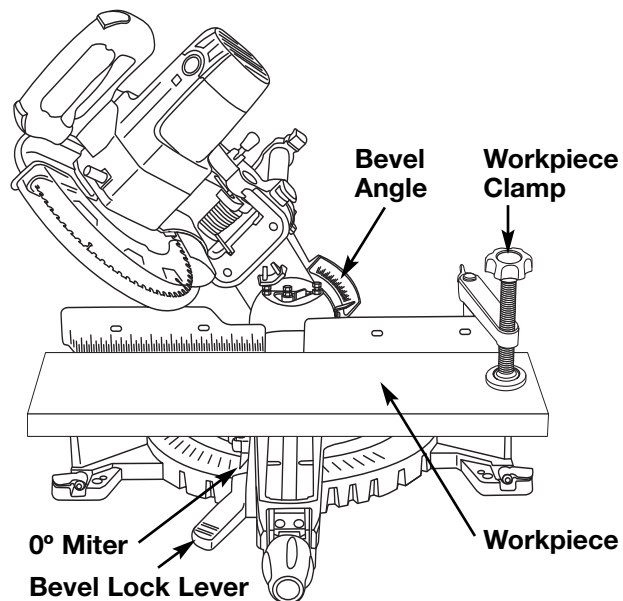

Figure 29. Bevel Cut
1. To loosen, lift the bevel lock lever. Tilt the head assembly to desired bevel angle. Tighten the bevel lock lever (Figure 29).